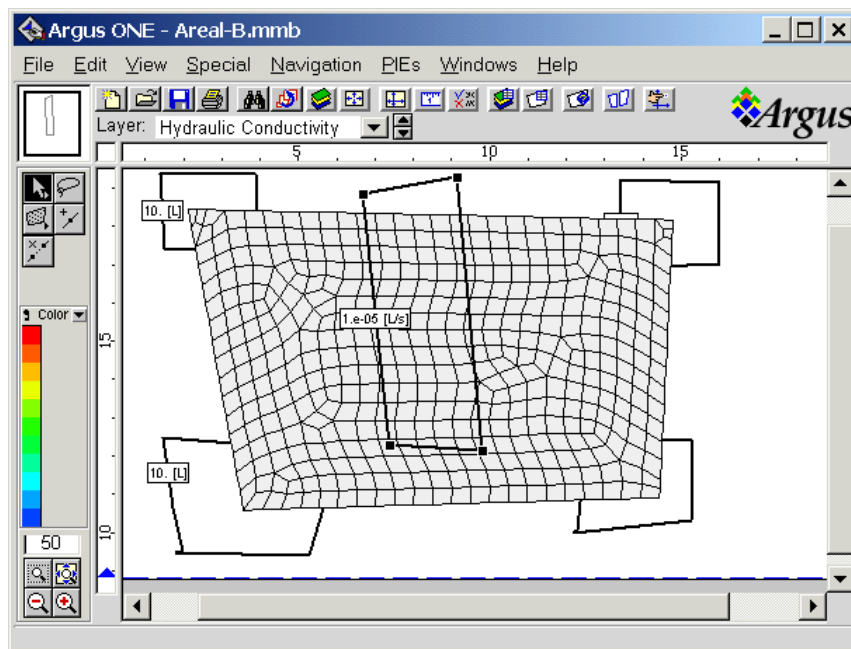

Figure 25. Low-conductivity barrier in areal solute transport step-by-step example.
4. With the closed-contour drawing tool, create a closed contour that extends across one side and partway across the model domain (fig. 25), partly blocking the outflow lake. After closing the contour, enter the value 0.0001 for the **maximum** and **minimum** values of hydraulic conductivity, and click *OK* in the *Contour Information* dialog box. (Any contour object or region in the **Hydraulic Conductivity** layer has three parameters that contain the spatial distributions of maximum and minimum conductivity components and the angle of the maximum direction to the X-direction in the workspace. Thus, conductivity may be set to be anisotropic.) This decreases the conductivity of the region by ten times relative to the background value (0.001) used for conductivity.